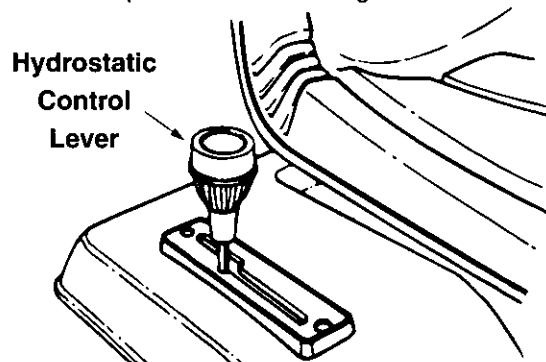

Figure 12
The hydrostatic control lever is located on top of the fender on the right side of the tractor. This single control lever, connected to the hydrostatic transmission, controls both the speed and direction of the tractor. Infinite speed control is achieved by moving the control lever forward or backward. The farther forward or backward you move the control lever, the faster you will travel. Pulling the control lever into neutral (N) area will stop the tractor. See Figure 12.